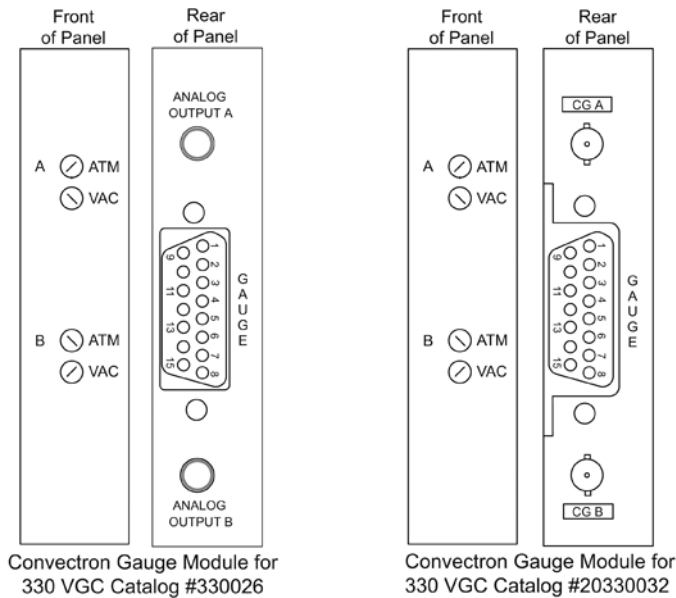

Figure 5-2 Convectron Modules - Front and Rear Panels
An analog output proportional to the logarithm of pressure (1V per decade) is provided on the rear of the Convectron Module. For the Series 330 VGC catalog #20330032, the analog output is available through two BNC connectors. For catalog #330026, analog output is available through two 1/8 inch miniature phone jacks. See Figure 5-2.
3. Locate the Convectron gauge module. See Figure 3-4, Figure 5-2, and Figure 5-11.